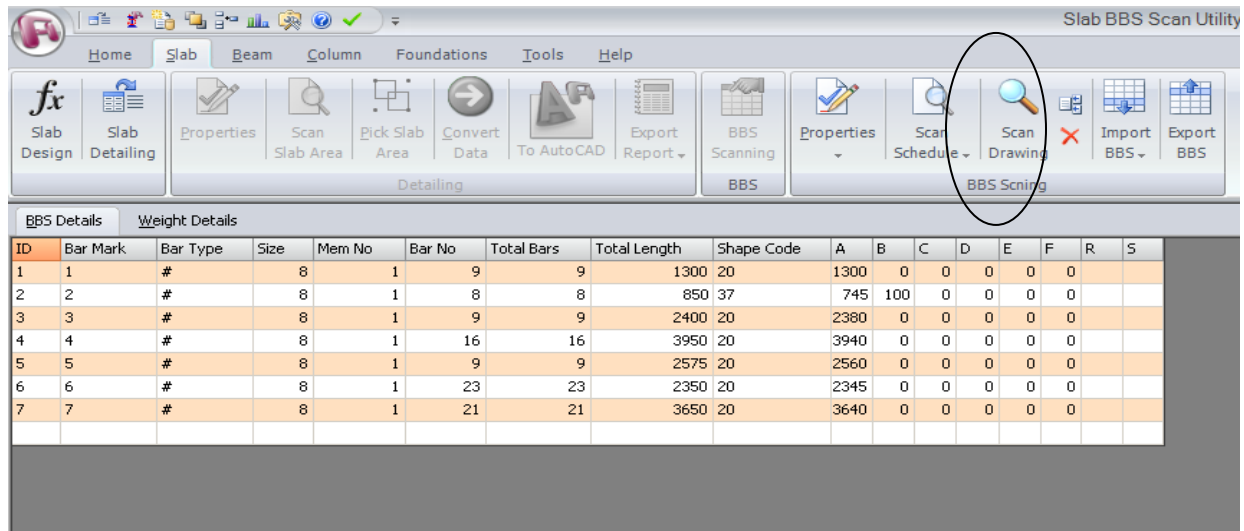

Fig 7.3.4
- Click on the **Scan drawing** from tool bar (fig 7.3.4)